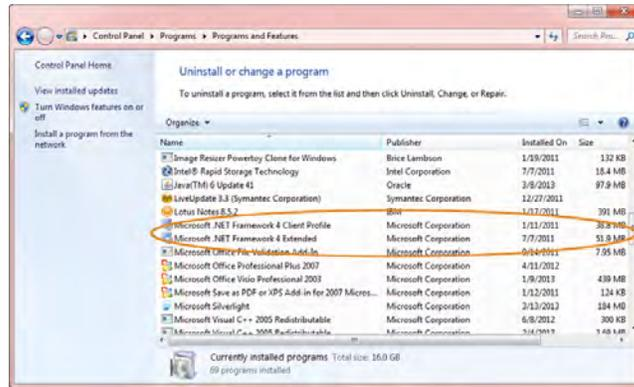

Figure 14 Verify Microsoft .NET Version in Windows 7
- Step 3. Scroll the resulting window until you find the Microsoft entries, as shown in *Figure 14*.